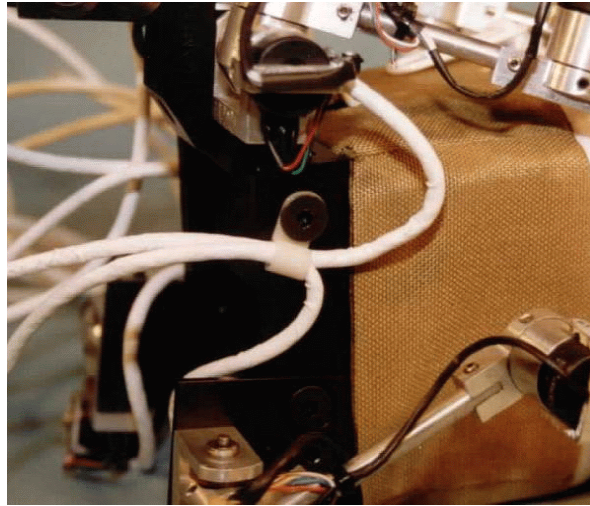

Figure 16.9- Wire strain relief location
7. Secure the CRUX wires to the upper abdomen assembly with a 1/4-20 x 1/2" BHSCS {5/32} and a 1/4" nylon cable clamp on each side, as shown in **Figure 16.9**. These bolts are fastened through the top mounting hole of the upper abdomen assembly.